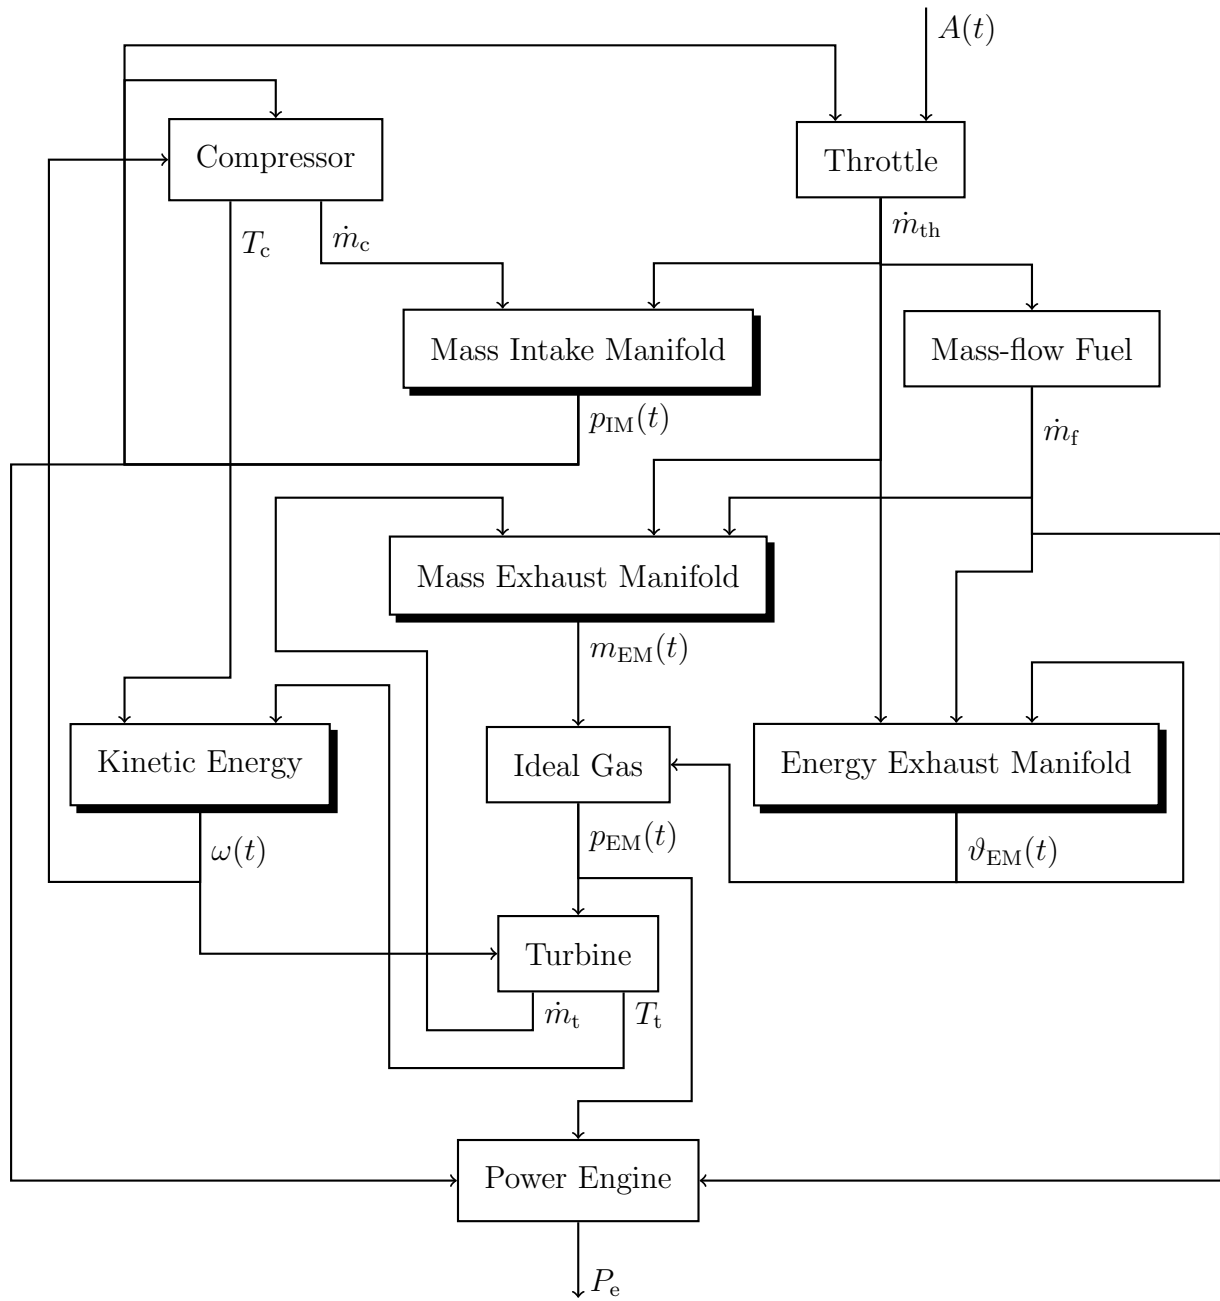

Figure 7: Causality diagram.
3. The causality diagram is shown in Figure 7.